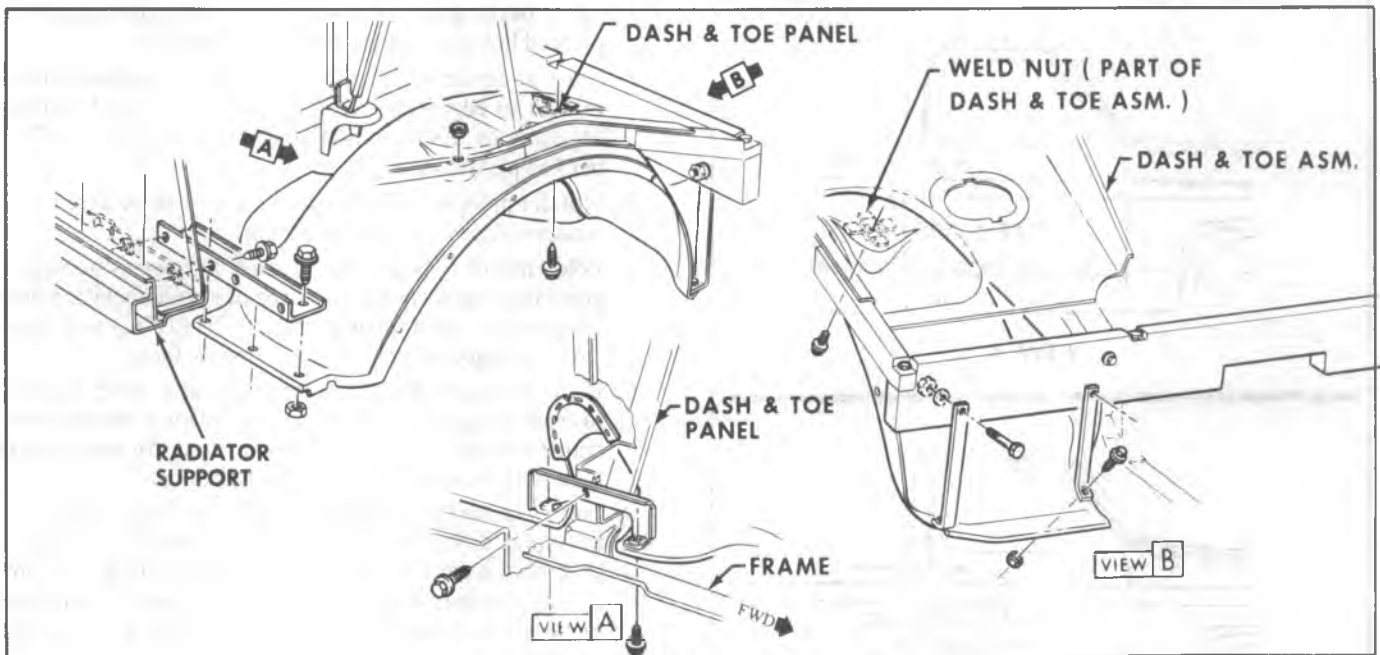

Fig. 2C-18--Fender Skirt, Dash and Toe Pan-P Series
2. Mark proper alignment position of molding with a length of masking tape. Use adjacent moldings as a guide, if applicable (view A, Fig. 2C-19.)
3. Hold molding in position with cloth or masking tape strips applied every 150 to 200mm (6" to 8") as shown in (view B, Fig. 2C-19.)